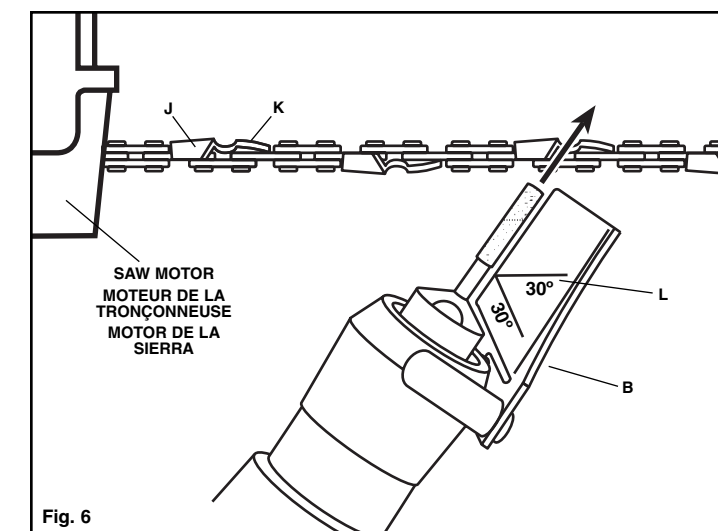

Fig. 6
4. Turn the saw around so that you are looking at the side of the chain bar with the motor to your left. Sharpen the cutter teeth on the far side of the chain, from inside to outside, or away from you, as shown in Figure 6. The guide should be laid flat on the tooth with the 30° index line parallel with the chain.